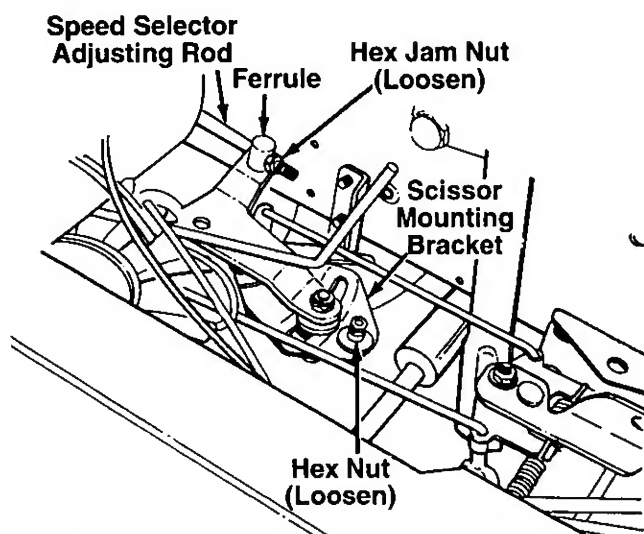

FIGURE 17.
3. Loosen the hex jam nut on the speed selector adjusting rod. See figure 17.
4. Loosen the hex nut on the scissor mounting bracket. See figure 17.